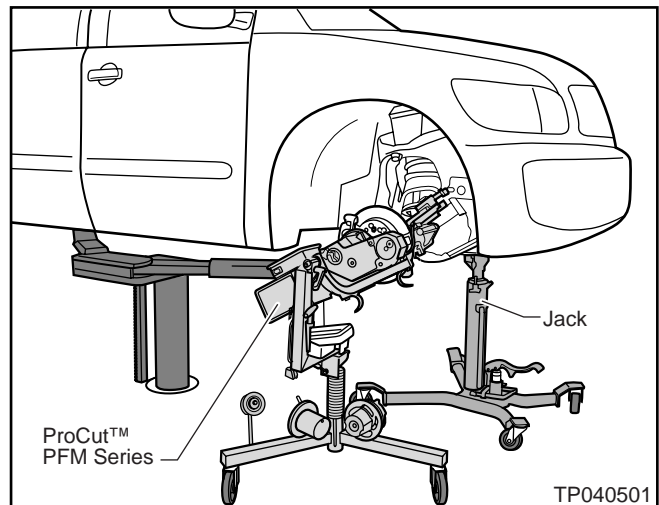

Figure 1
B. For best accuracy, “stabilize” (firmly support) the vehicle with a jack or jack stand as shown in Figure 1.